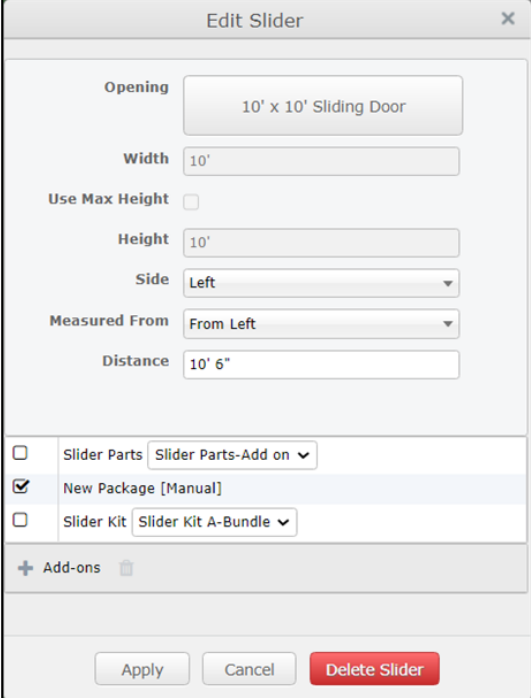

Figure 10: The *Edit Slider* dialog box.
2. Double-click on the Slider whose properties you wish to change. This will open an *Edit Slider* dialog box, like the one pictured in Figure 10 at right.
2. With the *Edit* button now activated, bring your mouse over the Slider Door to be deleted and double-click on it to open the *Edit Slider* dialog box, like the one pictured in Figure 10 above.